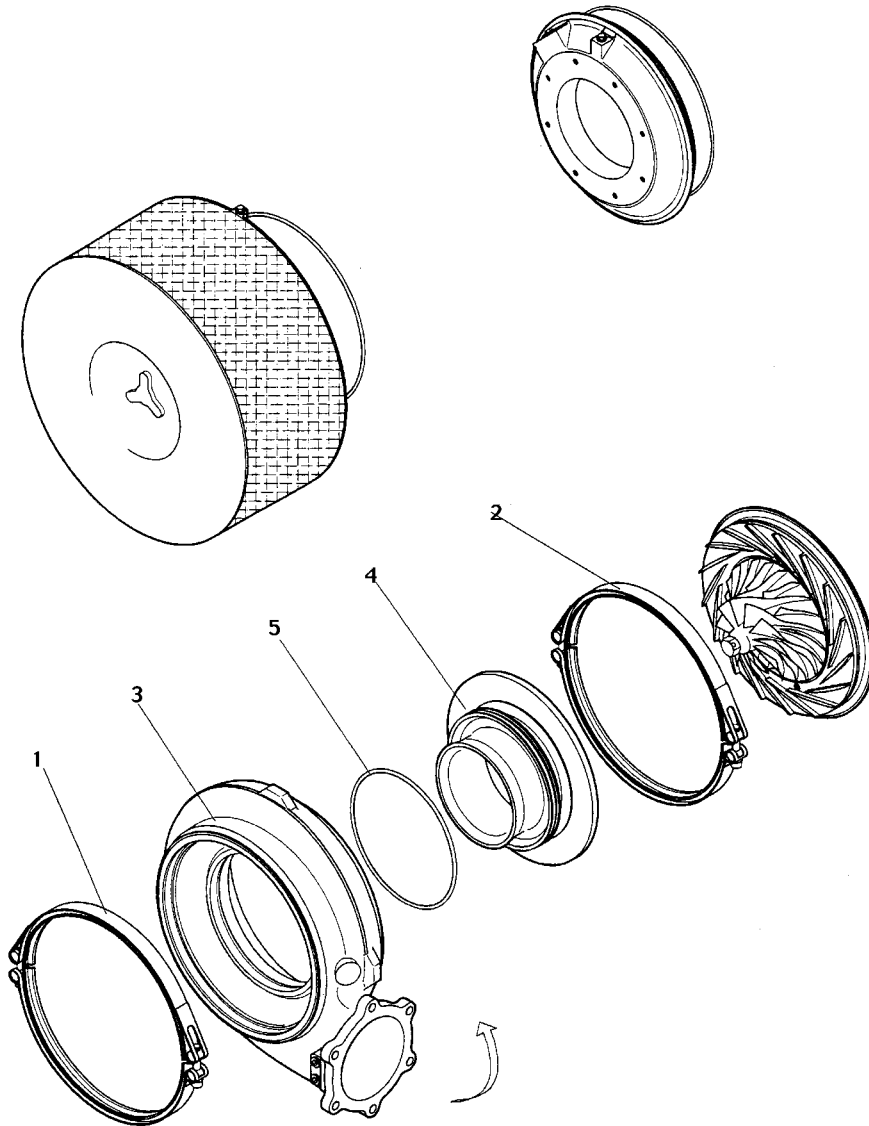

Fig. 15-25
- 2** Release V-clam (1) and remove silencer, air suction branches or air inlet flange (see Fig. 15-25).